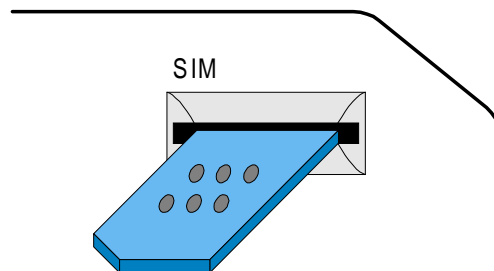

Figure 6: Modem SIM Access
- ❑ Install the SIM card in the SIM card slot on the front plate with the contacts facing up (Reference Figure 6). This is accomplished by pushing the SIM inward and down.